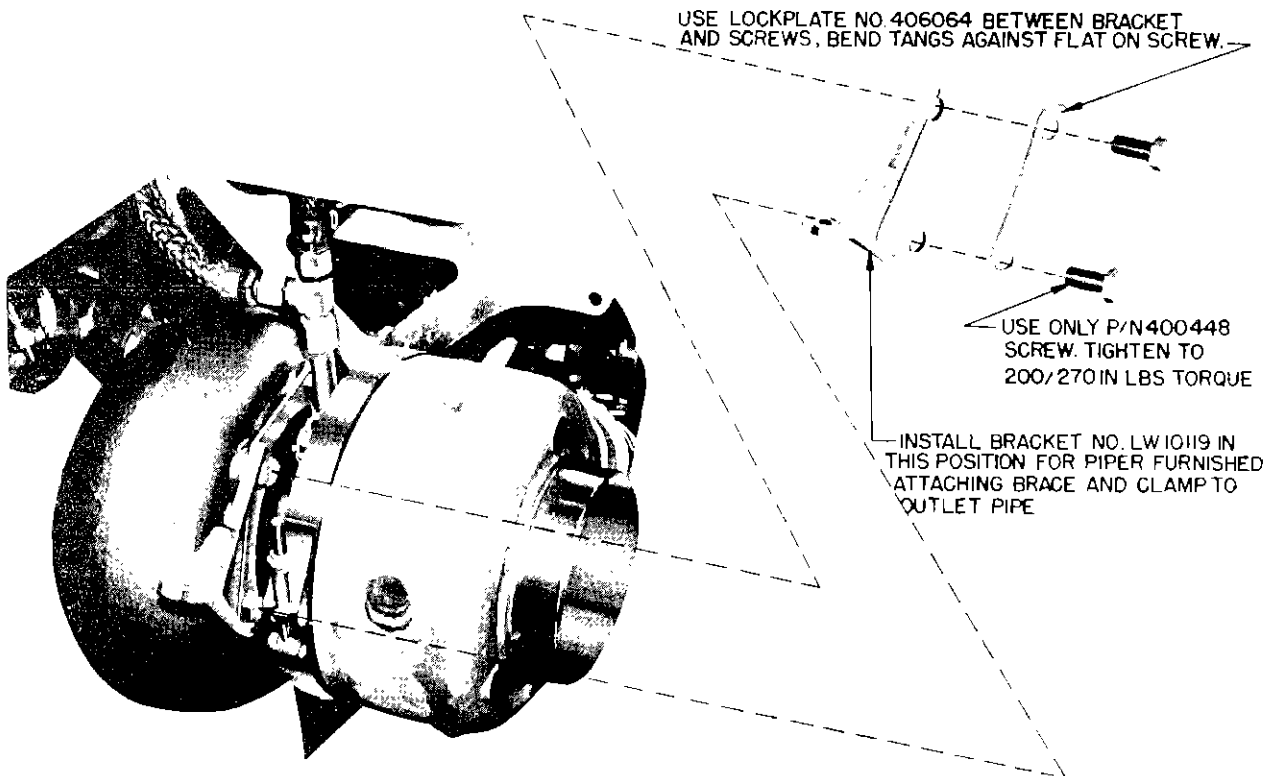

Figure 2. Rear View of Turbocharger Showing Details for Bracket Installation
1. Flatten the tabs of the two lockplates located at the turbine housing as shown in figure 2.
2. Saturate the area of the two cap screws indicated in figure 2 with Kano Kroil, Liquid Wrench or equivalent solvent 12 hours prior to removing the screws as described in the following step: this will tend to loosen the screws and permit their removal.
3. Remove the two 3/8-16 screws from the location shown in figure 2 and scrap, and make sure the tabs of the lockplates are reasonably flat so that they will not cause a false torque indication when the new bracket is assembled over old lock tabs.
4. Orient the new bracket (with its flanged side toward the right) and a new lockplate and attach them to the turbine housing using new 3/8-16 screws. Apply Fel Pro C5-A or C100 to the threads of the screws before assembly. Torque each screw to 200/270 inch pounds and bend the tabs of the new lockplate against the flat on the screws. See figure 2.